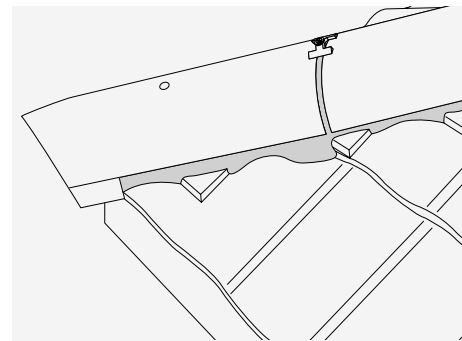

Fig. 9 – Hip end tile with mortar bedded security fixing kit
BEDDED HIPS WITH 375mm THIRD ROUND HIP (FIG. 9)
- 3 Mortar bedded hip tiles must also be mechanically fixed using Marley mortar bedded security hip fixing kits (Fig. 9).